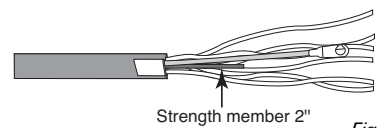

Fig. 8
- Cut each strength member 2" from the ring cut. (Figure 8)